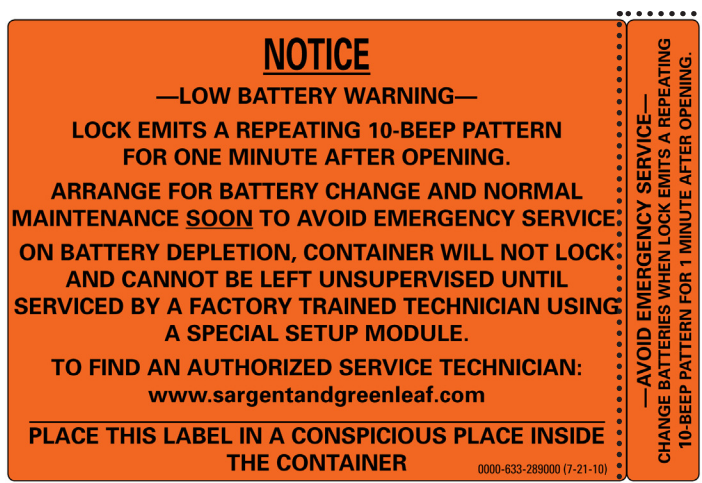

Figure 12
18. Place the self-adhesive orange label inside the safe or container, where it is readily visible when the door or locking drawer is open. For instance, the locking drawer's inside cover is a good location. There is also a 5/8" wide label on the same sheet that is sized to fit on the top surface of file drawer back plates (Figure 12), where it will be in plain view of anyone who opens the drawer.